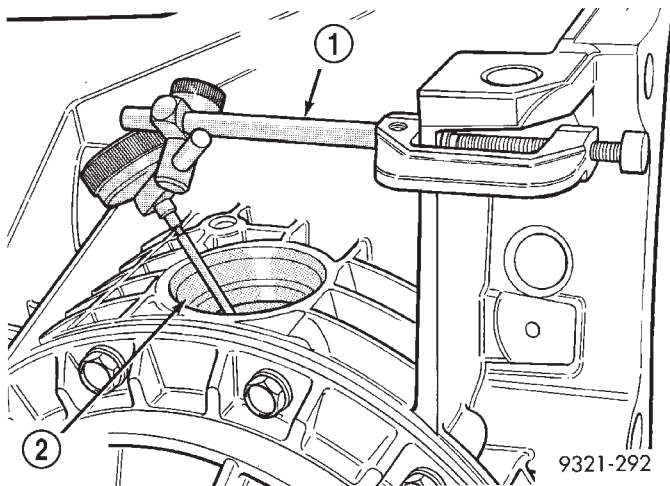

Fig. 430 Dial Indicator Installation
(56) To check and/or adjust backlash, remove the inspection plug from the top of the differential. Install dial indicator as shown in (Fig. 430). The tip of the dial indicator must be perpendicular against one of the ring gear teeth. Hold transfer shaft with locking pliers. Move ring gear back and forth with special tool 6548. Read the amount of backlash with dial indicator. Backlash should be 0.006" to 0.009" thousands of an inch.
(57) If there is too much backlash, loosen the outer adjuster with special tool 6503. Then turn the inner adjuster so that it **moves away from the ring gear**. After adjusting the inner adjuster, retighten the outer adjuster to the torque recorded in Step 30. The inner adjuster should be turned in small increments.
(58) If there is not enough backlash, loosen the outer adjuster with special tool 6503. Then turn the inner adjuster so that it **moves towards the ring gear**. After adjusting the inner adjuster, retighten the outer adjuster to the torque recorded in Step 30. The inner adjuster should be turned in small increments.
(59) Once backlash is within specifications, recheck backlash in four spots on the ring gear 90 degrees apart. All four readings should be within specifications.
(60) Install inner and outer adjuster locking brackets.
(61) Install new inspection plug. Use a wooden block to tap inspection plug into place.